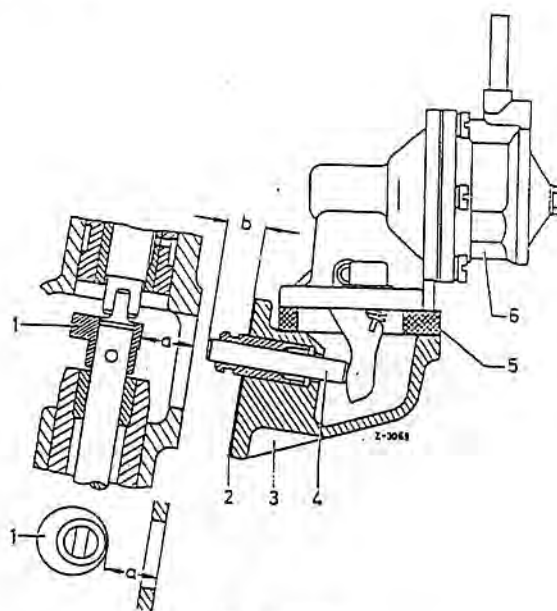

Fig. 00-14/1
If the specified values are still not obtained with the new pump measure the clearance between the tappet (4) of the fuel feed pump (start of delivery stroke) and the cam (1) at BDC (see Fig. 00-14/1).